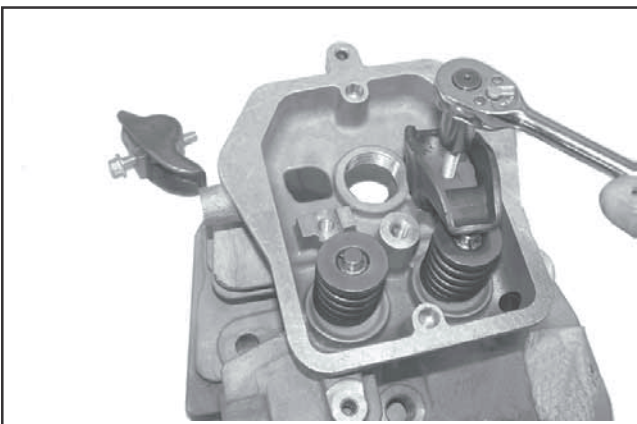

Figure 8-44. Removing Rocker Arms.
1. Remove the two hex flange screws, rocker arm pivots, and rocker arms from the cylinder head. See Figure 8-44.